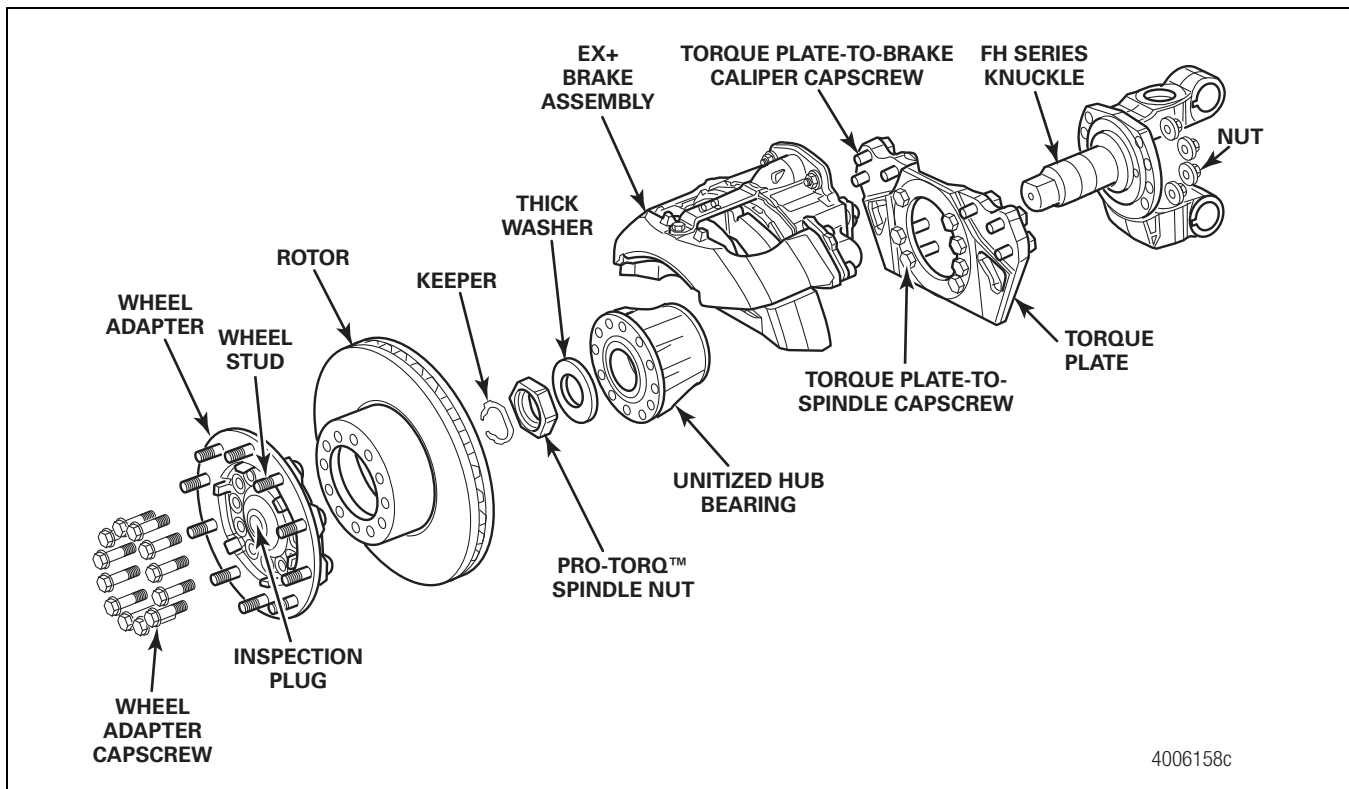

Figure 6.22
4. Install the unitized hub bearing onto the knuckle spindle. Use care to avoid damaging the O-ring on the spindle threads. Figure 6.22.